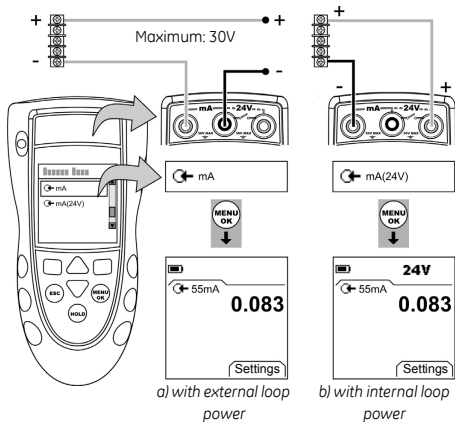

Figure 4: Example configuration - mA measurement
- 1. Connect the instrument (Figure 4) and, if necessary, adjust the *Set Up* (Table 1).
1. Connect the instrument to the calibration equipment (Figure 4).